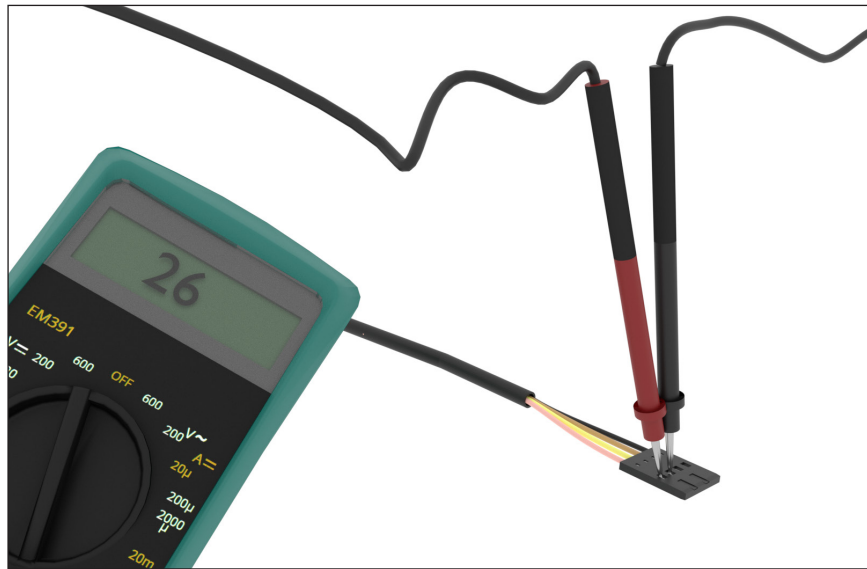

Figure 12: Stepper Motor Continuity - Probing Points
3. Test the orange and yellow wires (see Figure 12).